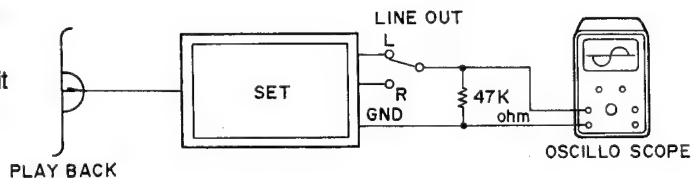

Figure 23
- (1) Make the connections as shown in Figure 23 and turn the power ON.